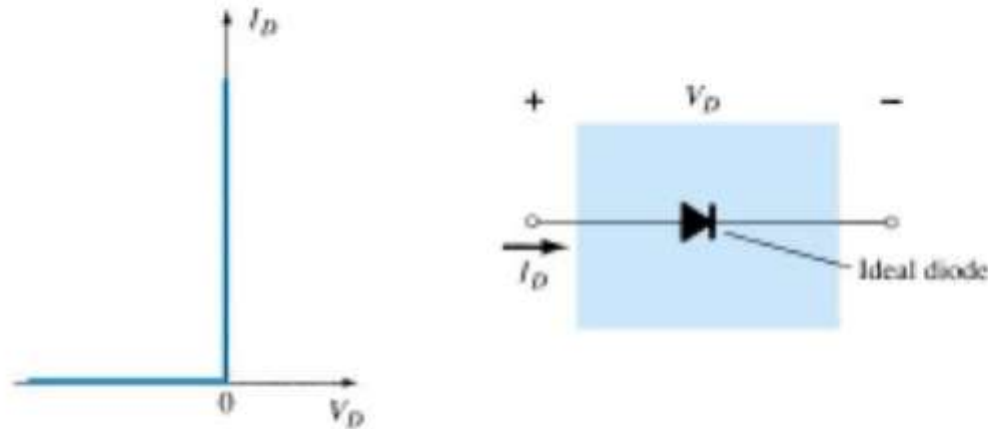

Figure 1.34 Ideal diode and its characteristics.
- In this case the equivalent circuit will be reduced to that of an ideal diode as shown in Fig. 1.34 with its characteristics.